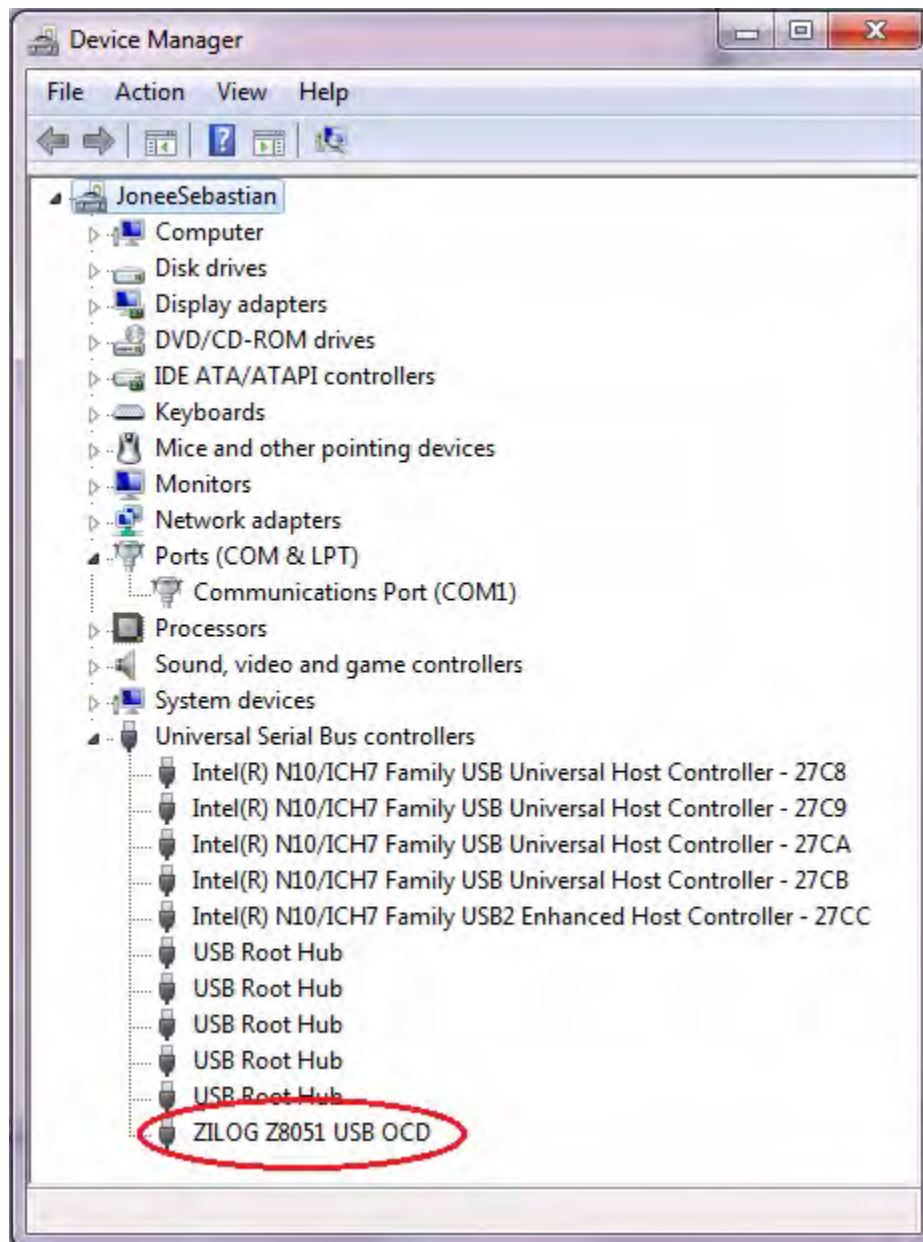

Figure 11. Device Manager Dialog, Windows 7
6. If *Zilog Z8051 USB OCD* appears in the Device Manager (as highlighted in Figure 11), the OCD driver software has been successfully installed.